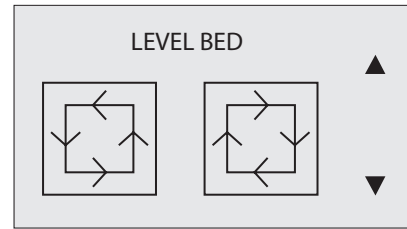

Fig. 98
3. Touch the 'Clockwise' and 'Counter-clockwise' buttons to automatically move the carriage around the corners of the print area. (Fig. 98)